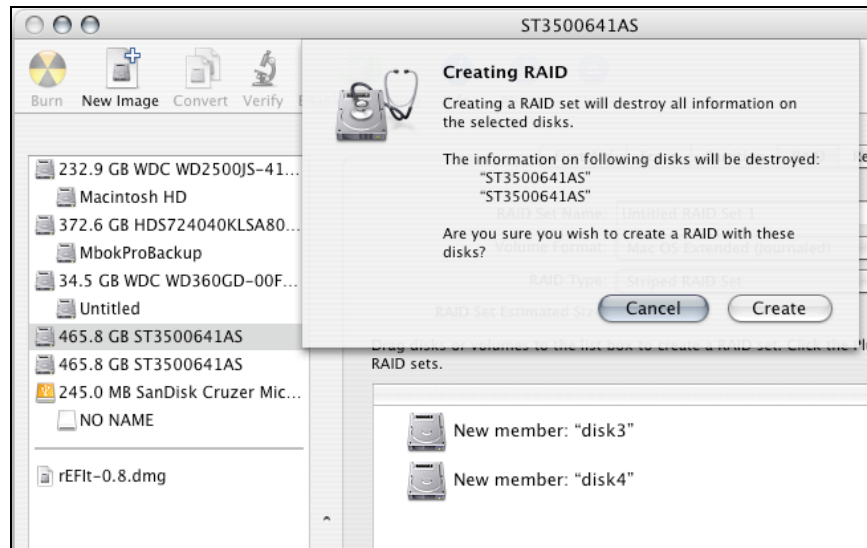

Figure 12: Creating a new RAID volume
10. After reviewing the options selected, click on the *Create* button to initialize the new RAID volume (see Figure 12).